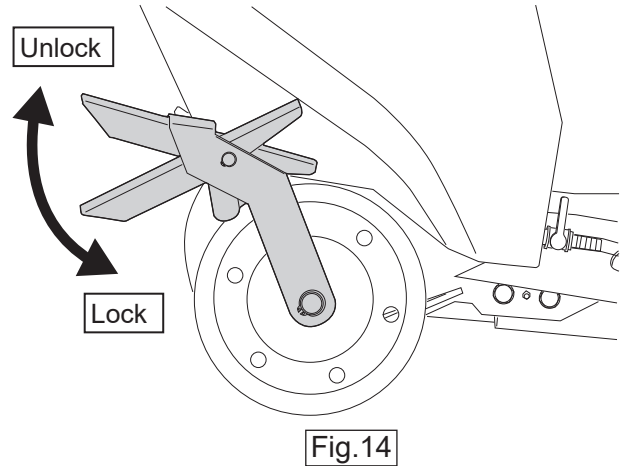

Fig.14
- There is a Parking Brake on right rear wheel. The wheel will be locked when the brake lever pushed down. And the wheel will be unlocked when the brake lever pushed up. The brake should be unlocked before work. (Fig.14)